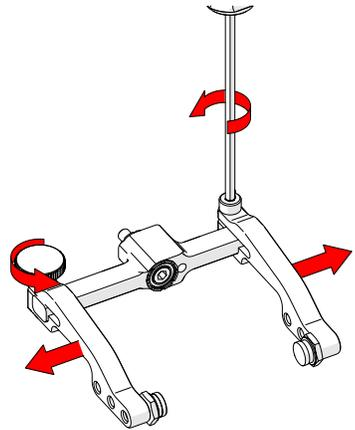

Fig. 60 - Remove probe holder arms
3. Loosen the probe holder arm adjustment knob and the arm clamp screw. Slide the probe holder arms off the yoke (Fig. 60).